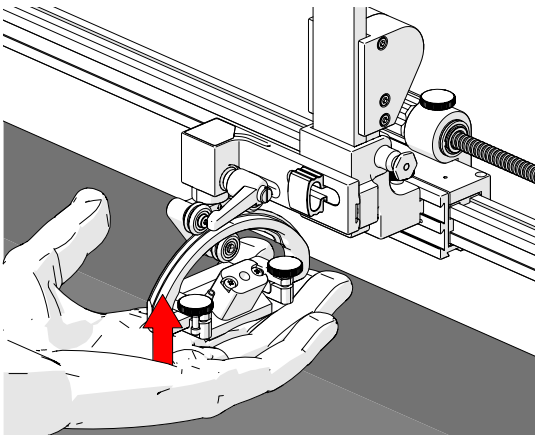

Fig. 49 - Lift probe holder
1. Lift the probe holder slightly to allow the release of the latch pin (Fig. 49).
1. Slightly lift the probe holder (Fig. 49).
4. Slightly lift the probe holder (Fig. 49).